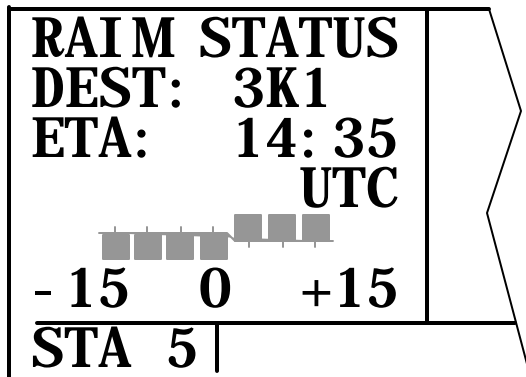

Figure 3D-72. RAIM Status
6. Once the RAIM calculation is complete, the STA 5 page will indicate the results of the test. Refer to Figure 3D-72. This is done graphically in a bar graph. The center of the bar graph represents the ETA. Each bar represents 5 minutes of time. The RAIM calculation is good for ± 15 minutes of the ETA. Bars that are above the line indicate RAIM is available and bars below the line indicate when RAIM is not available.